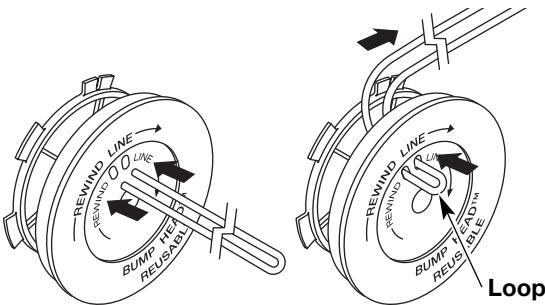

Fig. 19
6. Take approximately 16 feet (5 m) of new trimming line, loop it into two equal lengths. Insert each end of the line through one of the two holes in the inner reel (Fig. 19). Pull the line through the inner reel so that the loop is as small as possible.